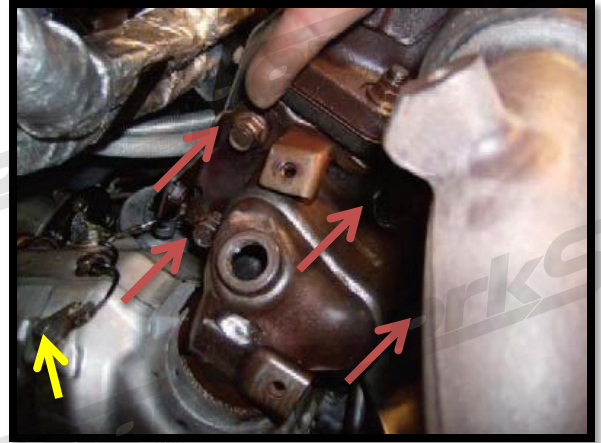

Figure 2a
- G. Remove the three (3) 10mm headed bolts securing the downpipe heat shield.
- A. Remove the five (5) nuts securing the downpipe by spraying penetrating oil on them (4 nuts shown w/ red arrows in Figure 2a, the fifth nut is underneath the downpipe). Let them soak for several minutes then remove the nuts. They are a factory locking style nut so they may be difficult to remove. A medium length 14mm socket, breaker bar, universal joint, and 12" extension are the best tools for removing the nuts.
- B. Remove 10mm hex head bolt and O2 sensor wiring harness loom from downpipe shown with a yellow arrow in Figure 2a. It will be reused to secure the Factory O2 sensor wiring harness.